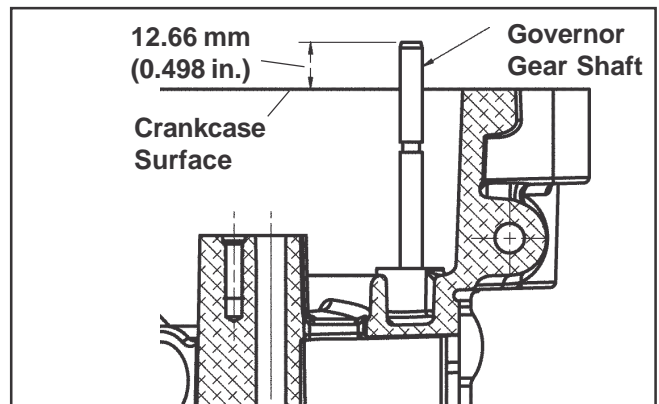

Figure 10-10. Governor Gear Shaft Press Depth.
2. If the governor gear shaft was removed, press or lightly tap the replacement shaft into the closure plate to depth shown in Figure 10-10.